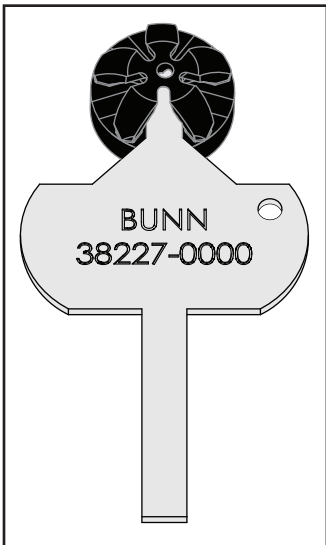

FIGURE 1
2. Check and clean the sprayhead. The sprayhead holes must always remain open. Insert the short end of the sprayhead cleaning tool into each of the five water outlets of the plastic sprayhead to remove any mineral deposits (Refer to Fig 1)